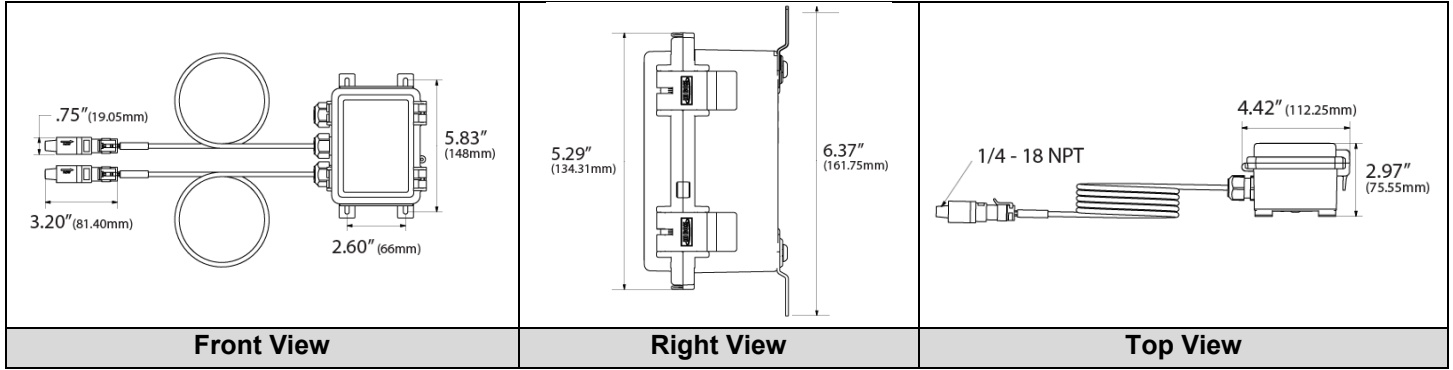

Figure 1
The WPR2 is supplied with 4 mounting flanges. The mounting flanges must be installed onto the bottom of the enclosure. Align the mounting flanges with the threaded insert on the bottom of the enclosure. Insert and tighten down the screws. Find a suitable location for the enclosure. Drill pilot holes for the (4) mounting screws. Use the enclosure flange as a guide, or use the dimensions listed in FIGURE 1 to measure out.